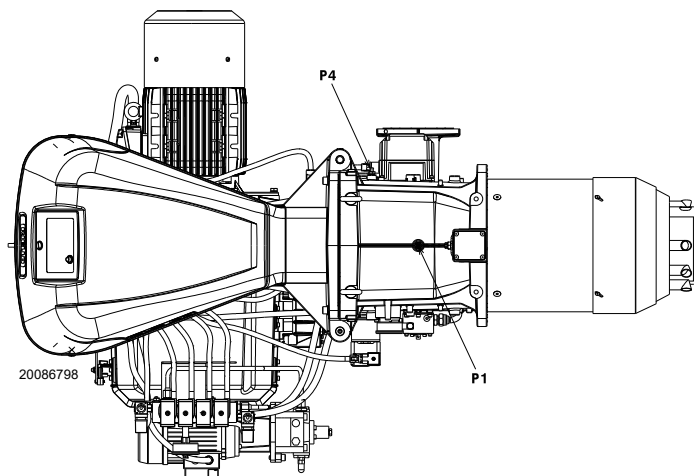

Fig. 19
Gas pressure measured at the test point 1)(Fig. 19), with:
- subtract the combustion chamber pressure from the gas pressure measured at test point 1)(Fig. 19);
- Gas pressure at test point 1)(Fig. 19) = 11.7 "WC